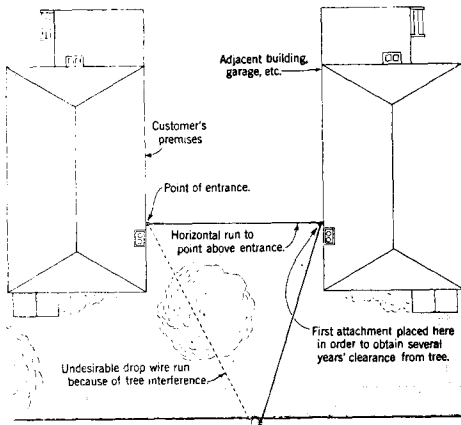

Fig. 5 — Avoiding Tree Interference by Attaching to an Adjacent Building
2.05 Spanning to an Adjacent Building — By spanning to an adjacent building, garage, etc., as shown in Fig. 5, adequate clearance between drop wires and trees can often be obtained.